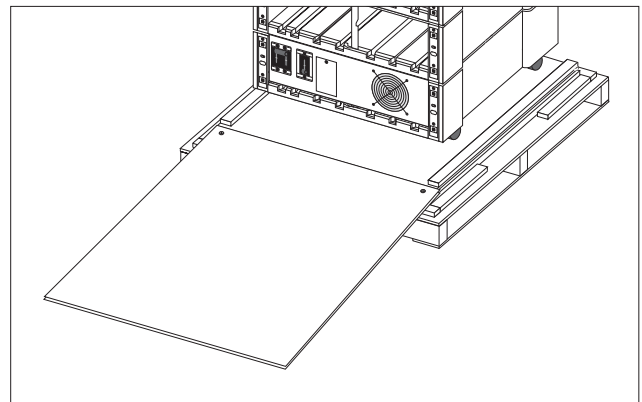

Fig 3-3 Frame Pallet Ramp
3. **Install the Ramp** - Position the ramp so that the installation bolts line up with the ramp bolt holes on the pallet. Install the ramp onto the pallet as shown in Figure 3-3.